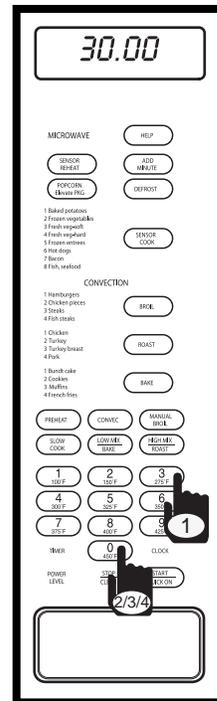

Figure 3-43.
5. Enter desired cooking time. Press the number 3 key and number 0 key three times. The display will flash "30.00 - PRESS - START" (See Figure 3-43).